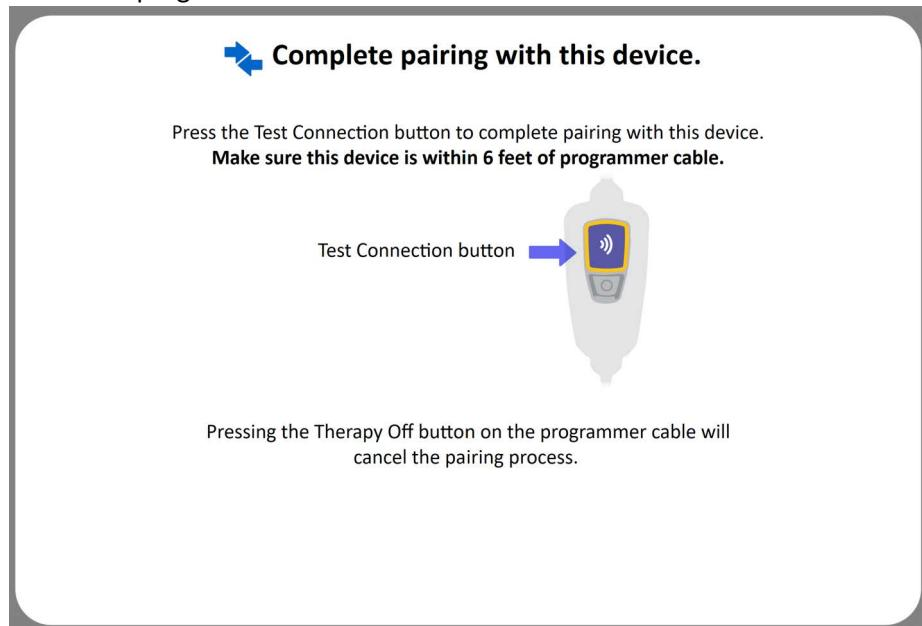

Figure 3-9. Pair a Programmer Cable Test Connection Screen
d. The system begins searching for the programmer cable. When the programmer cable is located, the following screen displays (Figure 3-9).